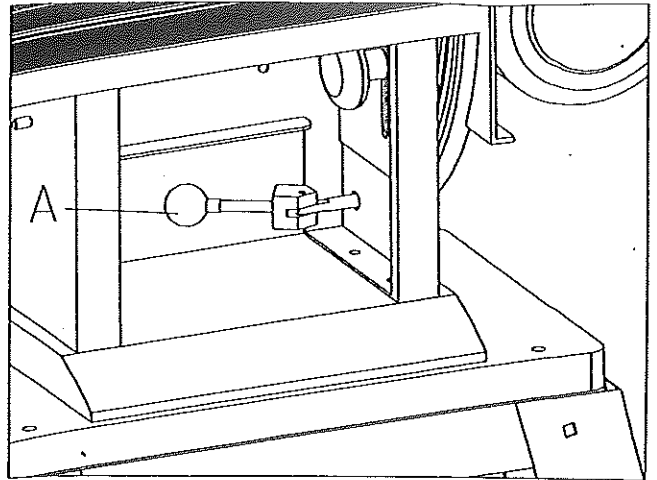

Fig. 1
3. Sanding platen is presently in a horizontal position. Pull lock handle (A. fig. 1) to unlock platen assembly, tilt sanding platen to the vertical position, and push lock handle to lock platen assembly in place. Note: do not turn lock handle. Turning or rotating the lock handle will change the tension of the locking assembly. This may cause the locking assembly not to work; making it necessary for adjustment before using the machine.
ASSEMBLY STAND FIG. 1